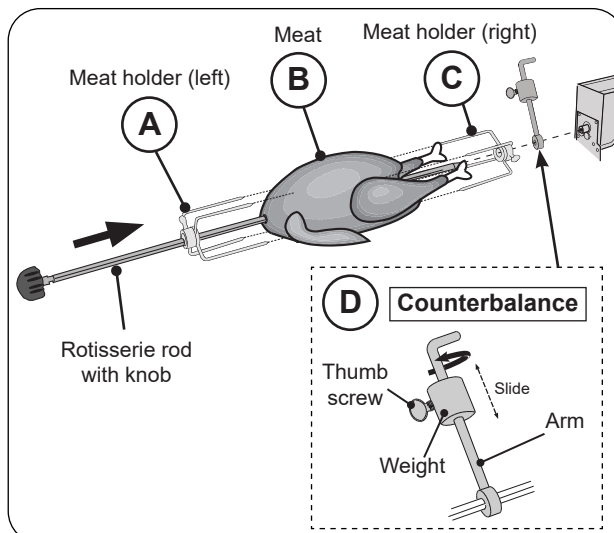

Fig. 43-3 Assemble rotisserie rod for cooking
4. Slide the left meat holder onto the rod and tighten (see Fig. 43-3, A).
5. Then slide meat onto the rod, followed by the right meat holder (see Fig. 43-3, B and C).
8. The counterbalance may then be attached to even weight distribution. Slide the counterbalance onto the rod next to the right meat holder (see Fig. 43-3, D). Loosen the arm and point it upward opposite the heavy side of the meat. Tighten the arm.
9. Slide the counterbalance weight up or down the arm until the rod rotates most evenly then tighten thumb screw (see Fig. 43-3, D).